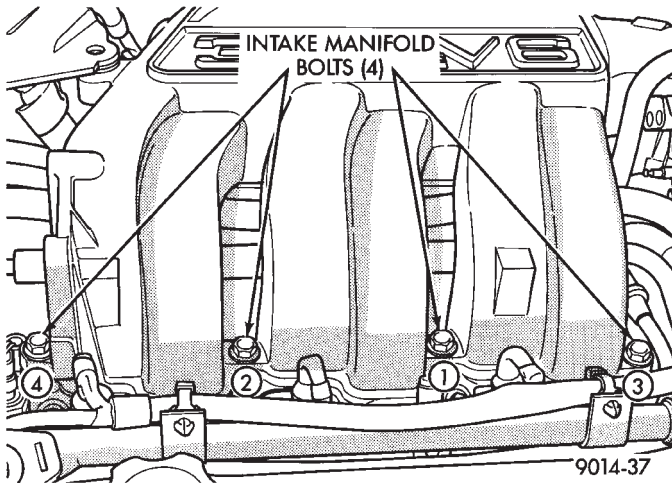
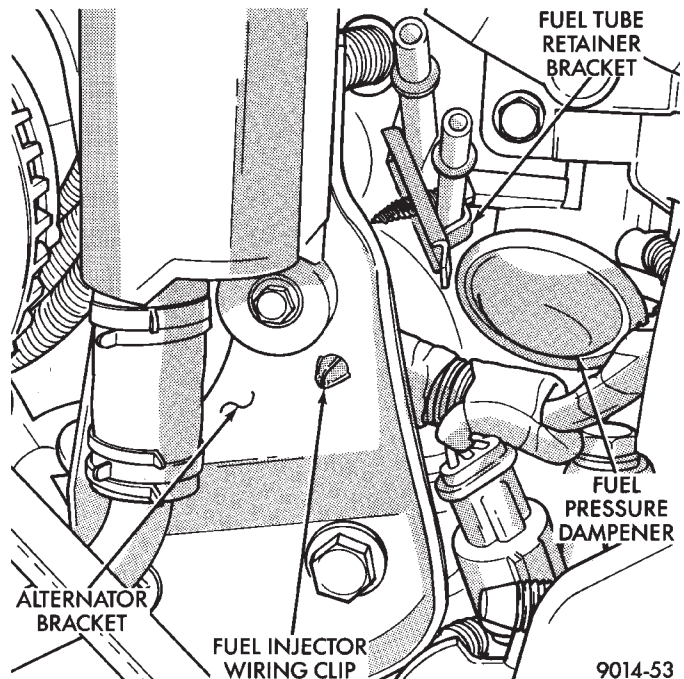
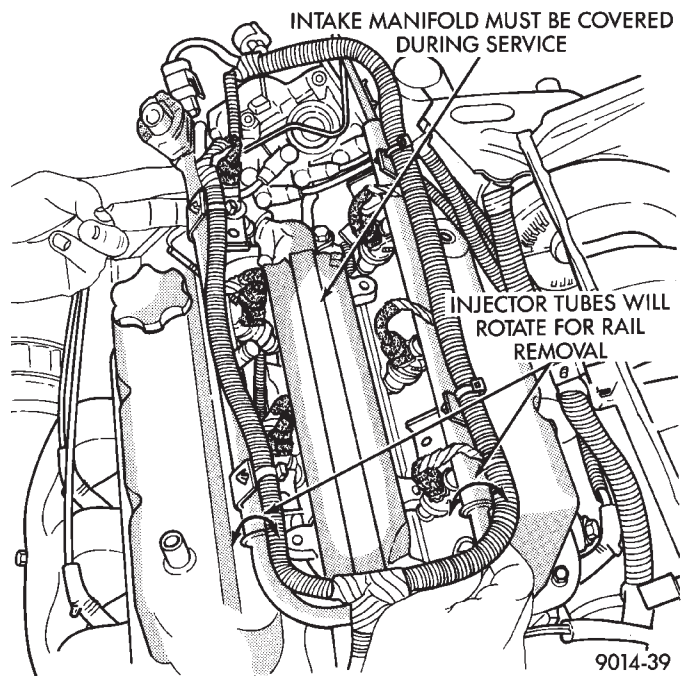

Fig. 9 Intake Manifold Bolts
Fig. 11 Fuel Injector Wiring Clip
Fig. 12 Fuel Rail Removal
(14) Remove intake manifold bolts and rotate manifold back over rear valve cover (Fig. 9).
(18) Remove fuel rail injector wiring clip from the alternator bracket (Fig. 11).
(19) Disconnect cam sensor, coolant temperature sensor, and engine temperature sensors.
(20) Remove fuel injector wiring clip from intake manifold water tube.
(21) Remove fuel rail. Be careful not to damage the rubber injector O-rings upon removal from their ports (Fig. 12).
(5) Make sure the injector holes are clean and all plugs have been removed.
(6) Lube injector O-ring with a drop of clean engine oil to ease installation.
(7) Put the tip of each injector into their ports. Push the assembly into place until the injectors are seated in the ports (Fig. 12).
(10) Reconnect cam sensor, coolant temperature sensor and engine temperature sensors (Fig. 11).
(11) Install fuel injector harness wiring clips on the alternator bracket and intake manifold water tube (Fig. 11).
(12) Connect fuel pressure regulator vacuum line.
(13) Remove covering on lower intake manifold and clean surface.
(14) Place intake manifold gasket on lower manifold. Put upper manifold into place and install bolts finger tight.
(15) Install the alternator bracket to intake manifold bolt and the cylinder head to intake manifold strut bolts. **Do not torque.**
(16) Tighten intake manifold bolts to 28 N•m (250 in. lbs.) torque in the sequence shown in (Fig. 9).